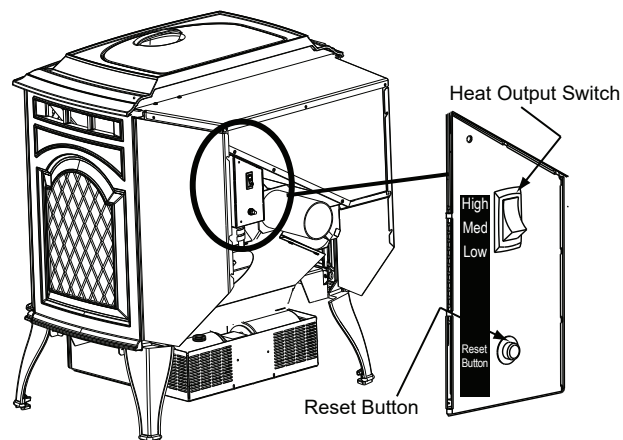
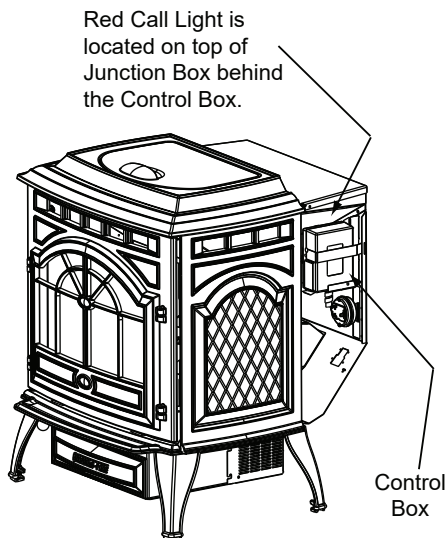

Figure 10.1
Figure 12.1
3. Occasionally the appliance may run out of fuel and shut itself down. When this happens, the red call light will be on (**Figure 12.1**). To restart it, fill the hopper and press the reset button (**See Figure 10.1, page 10**). When you press the reset button the red call light will go out. Release the button and the light will come back on. You should see a fire shortly. If not, follow the instructions on **page 9**, of “Starting Your First Fire”.